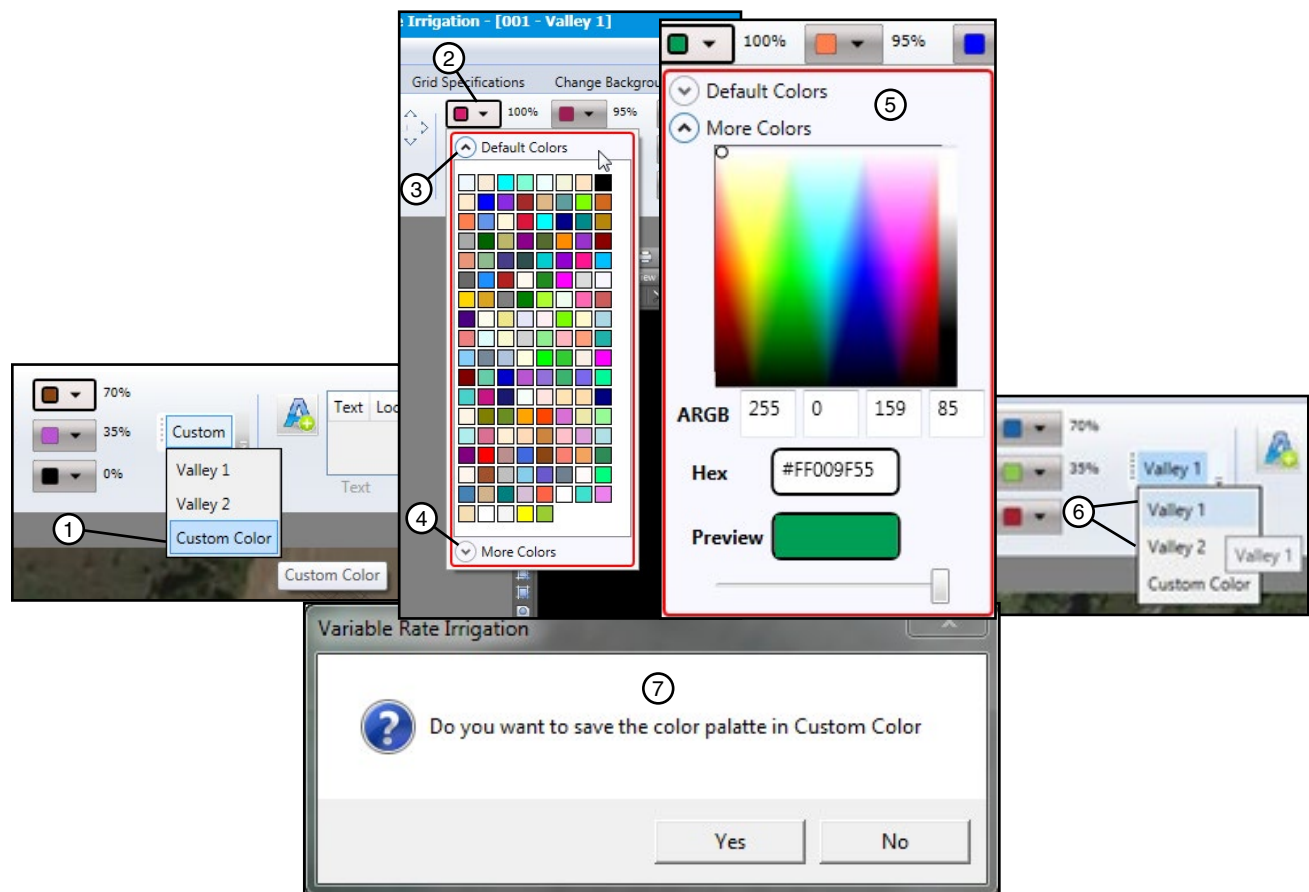

Figure 19-1 1. Custom Color 2. Watering rate drop-down arrow 3. Default Color 4. More Colors 5. More Colors Screen 6. Valley 1 or Valley 2 7. Save popup window
Valley 1 (Figure 19-1) which is based off of a gradient system similar to that of a soil map.
- (a) To make your Custom Color pallet See Figure 19-1: